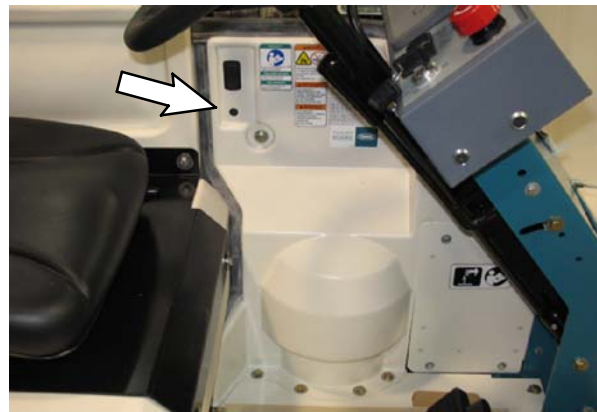

FIG. 4
8. Remove the motor cover panel from the operator compartment. Set the hardware and panel aside. Refer to Fig. 4.